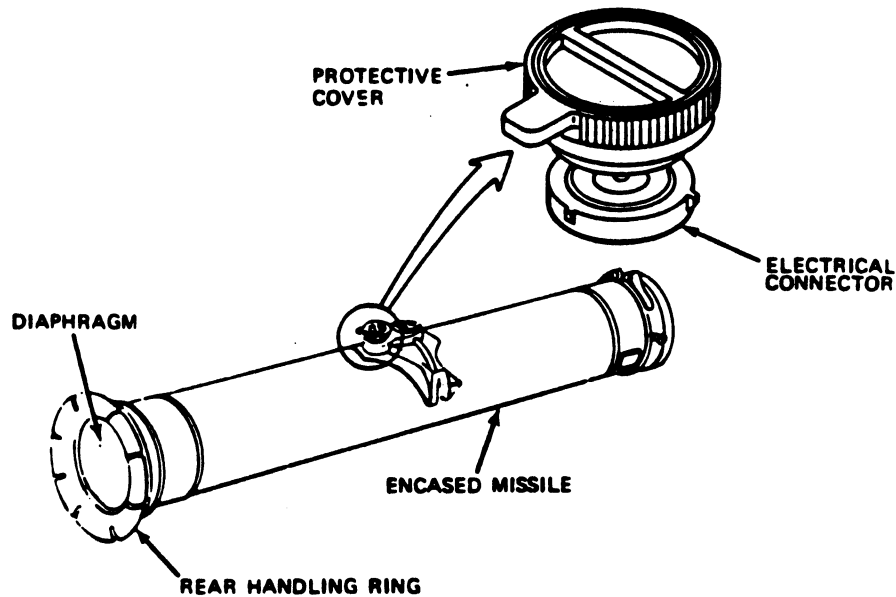

Fig 4-9. Protective cover/electrical connector.
Step 6. Turn the inside portion of the protective cover two complete turns counterclockwise and turn the protective cover counterclockwise and remove it from the electrical connector (fig 4-9).